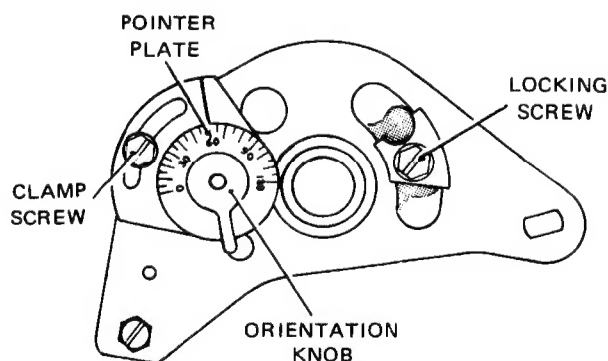

Fig. 2.6 SELECTOR UNIT
- (b) Slacken locking screw Fig. 2.6 and turn orientation knob slowly clockwise until the lowest value is obtained for which the receiver correctly prints a minimum of two full lines. Record this setting.